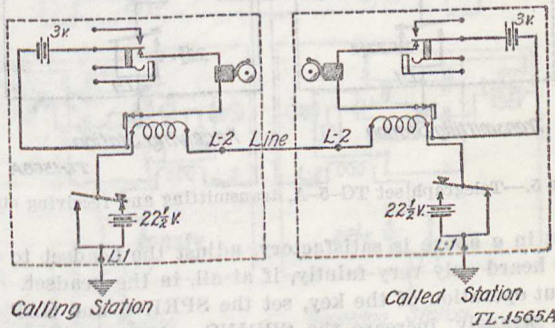

FIGURE 4.—Telegraph set TG-5-A, calling circuit with plugs *not* in jacks.
21. Testing the calling circuit (fig. 4).—If the set has been prepared as directed in paragraph 20, test the calling circuit by short circuiting the L1 and L2 binding posts and pressing the key. The bell should ring; if it does not, it
23. Installing the set.—The instructions which follow are based on the assumption that the actions directed in paragraphs 20, 21, and 22 have been satisfactorily completed. Each of the binding posts L1 and L2 must be connected to a wire which forms part of the circuit on which the set is to be installed. Both of these wires may be part of a line but usually one is part of a line and the other leads to a ground near the set. In all terminal stations shown in figures 4 to 7, inclusive, L1 is connected to the ground and L2 to the line. If those connections are reversed, however, the operation of the sets will not be affected.